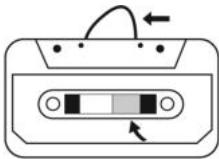
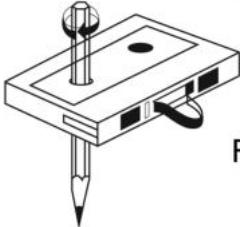

Fig. 1
Fig. 2
- Check that there are no loose layers of tape visible through the cassette centre window (see Fig. 1). Take up any loose layers, using a pencil or hexagonal barrelled ballpoint pen, before inserting the cassette into the machine (see Fig.2)..
- If the cassette feels tight while performing operation shown (see Fig.2), the tape may be jamming due to ridges formed in the winding of the tape (visible through the centre window). These may be removed, in most cases, by fast winding of the cassette from one end to the other and back again.